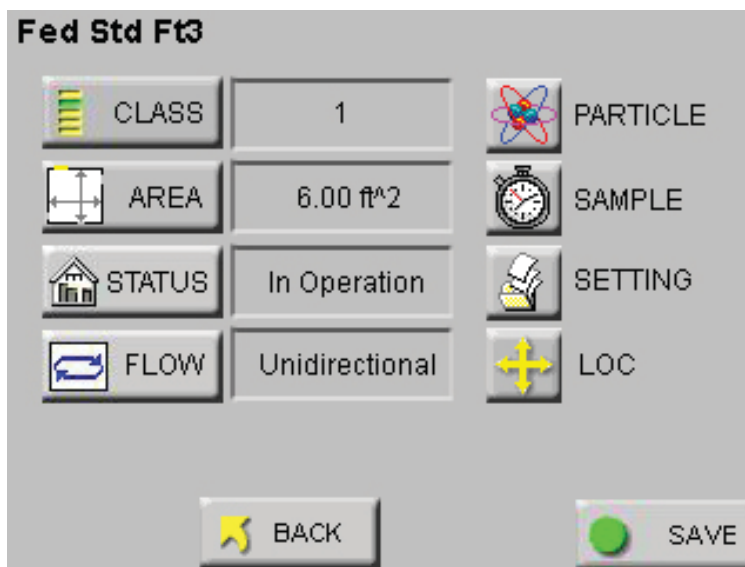

Figure 6-88 Configure the Instrument
- The SETUP screen shown in Figure 6-88 will display the values that were configured in the display fields.